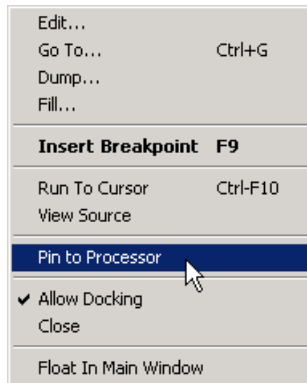

Figure 3-43. Selecting Pin to Processor
7. Right-click in the top Disassembly window and choose **Pin to Processor** from the popup menu, shown in Figure 3-43.